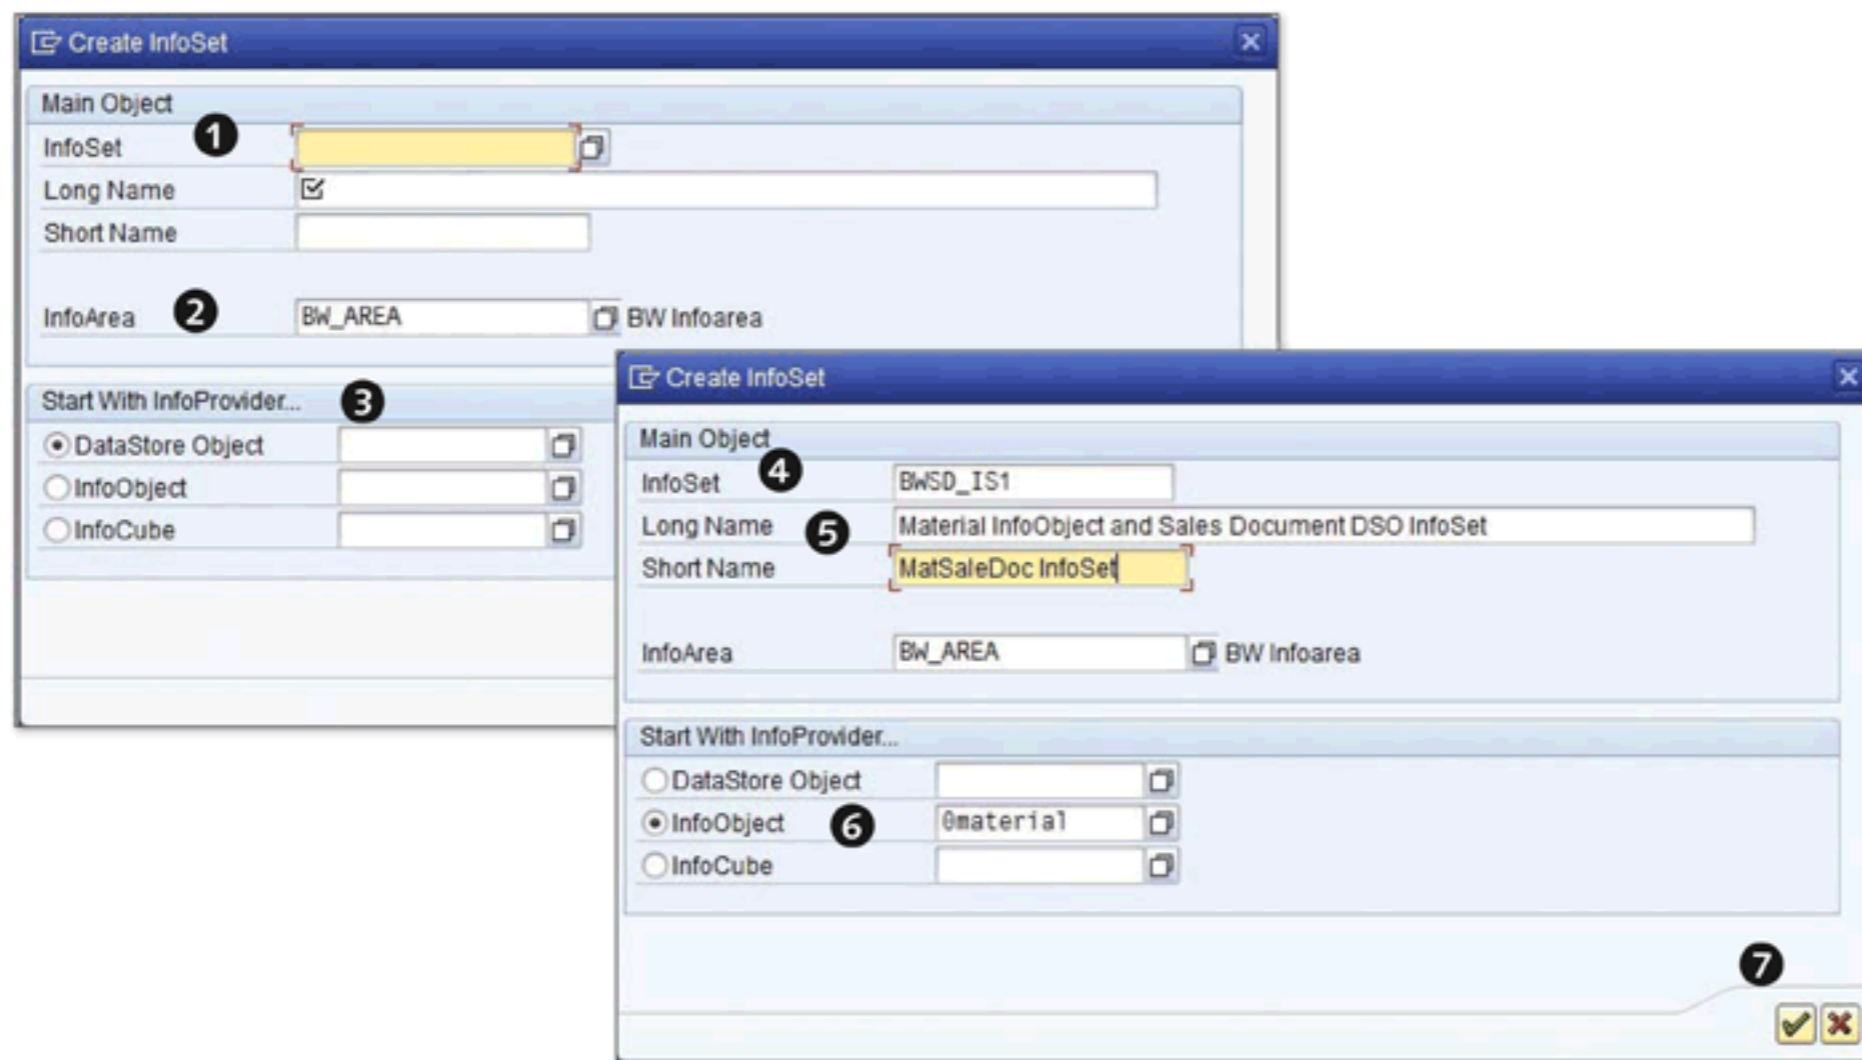

Figure 6.20 Initial Screen
Using the context menu of InfoArea BW_AREA, click on the CREATE INFOSET option (3). The CREATE INFOSET box appears, as shown in Figure 6.20.
InfoSets require a unique technical name and description, as shown in 1 of Figure 6.20. The technical name of the BW_AREA InfoArea in which the InfoSet would be grouped is displayed in the INFOAREA field (2). The START WITH INFO-PROVIDER section (3) offers three choices: DATASTORE OBJECT, INFOOBJECT, and INFOCUBE.